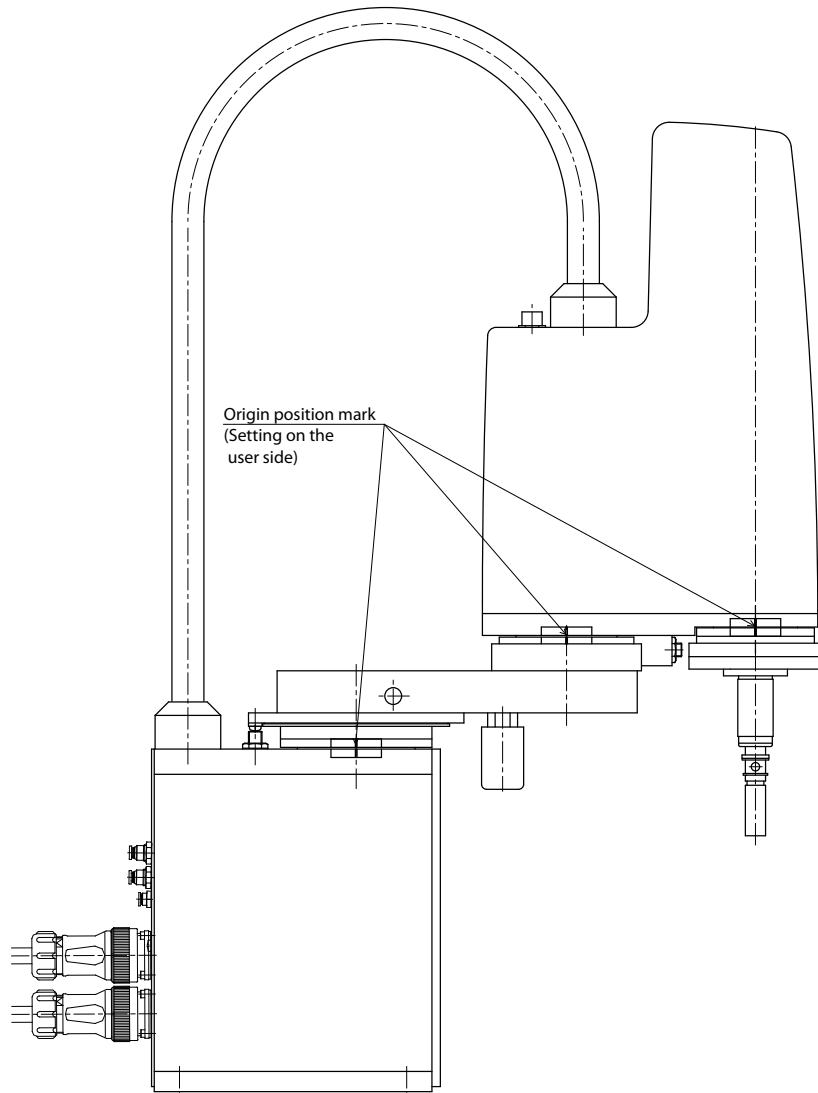

Fig. 4-5 Origin position mark setting example R6YXH250, R6YXH350, R6YXH400
- 9) After moving all the axes back to their "0" pulse positions, press the emergency stop button and affix the supplied origin position stickers to the upper and lower areas of the X-axis, Y-axis, and R-axis. Use these marked positions to perform an absolute reset if it is needed in the future. (See Fig. 4-5 to Fig. 4-8.)
- 11) After moving all the axes back to their "0" pulse positions, press the emergency stop button and affix the supplied origin position stickers to the upper and lower areas of the X-axis, Y-axis, and R-axis. Use these marked positions to perform an absolute reset if it is needed in the future. (See Fig. 4-5 to Fig. 4-8.)